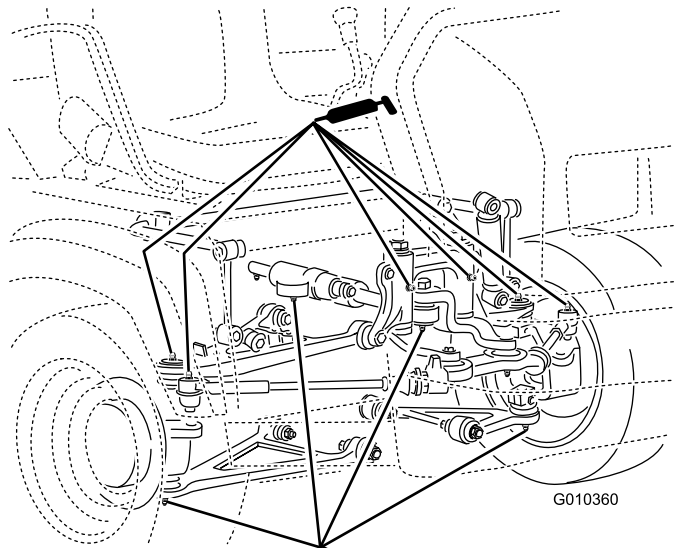

Figure 35
- Ball joints (4), tie rods (2), pivot mounts (2) and steering cylinder (2) as shown in Figure 35